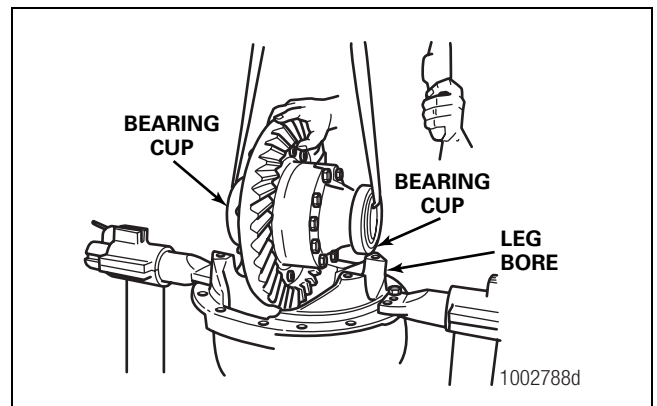

Figure 5.50
4. Install the bearing cups over the bearing cones that are assembled on the case halves. Figure 5.50.
5. Safely lift the differential and ring gear assembly and install it into the carrier. The bearing cups must be flat against the bores between the carrier legs. Figure 5.50.